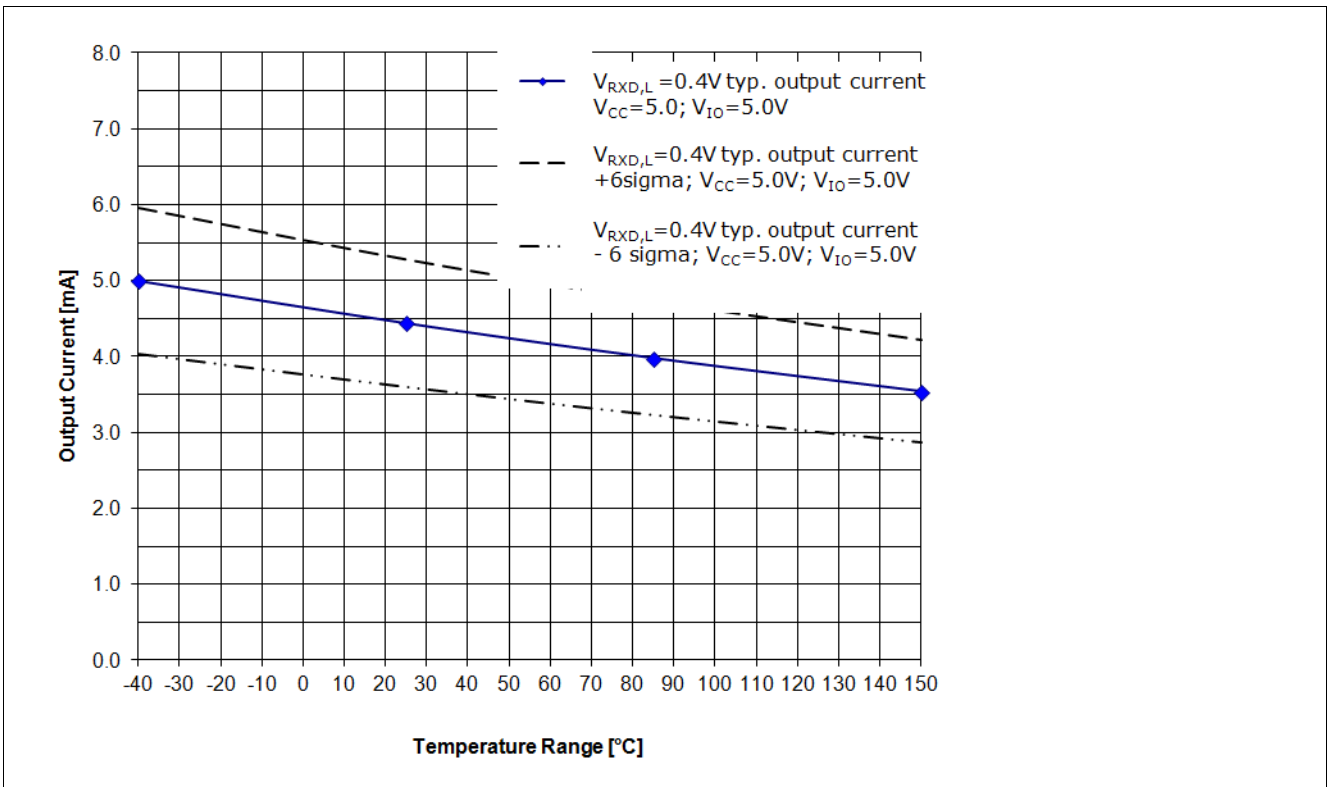
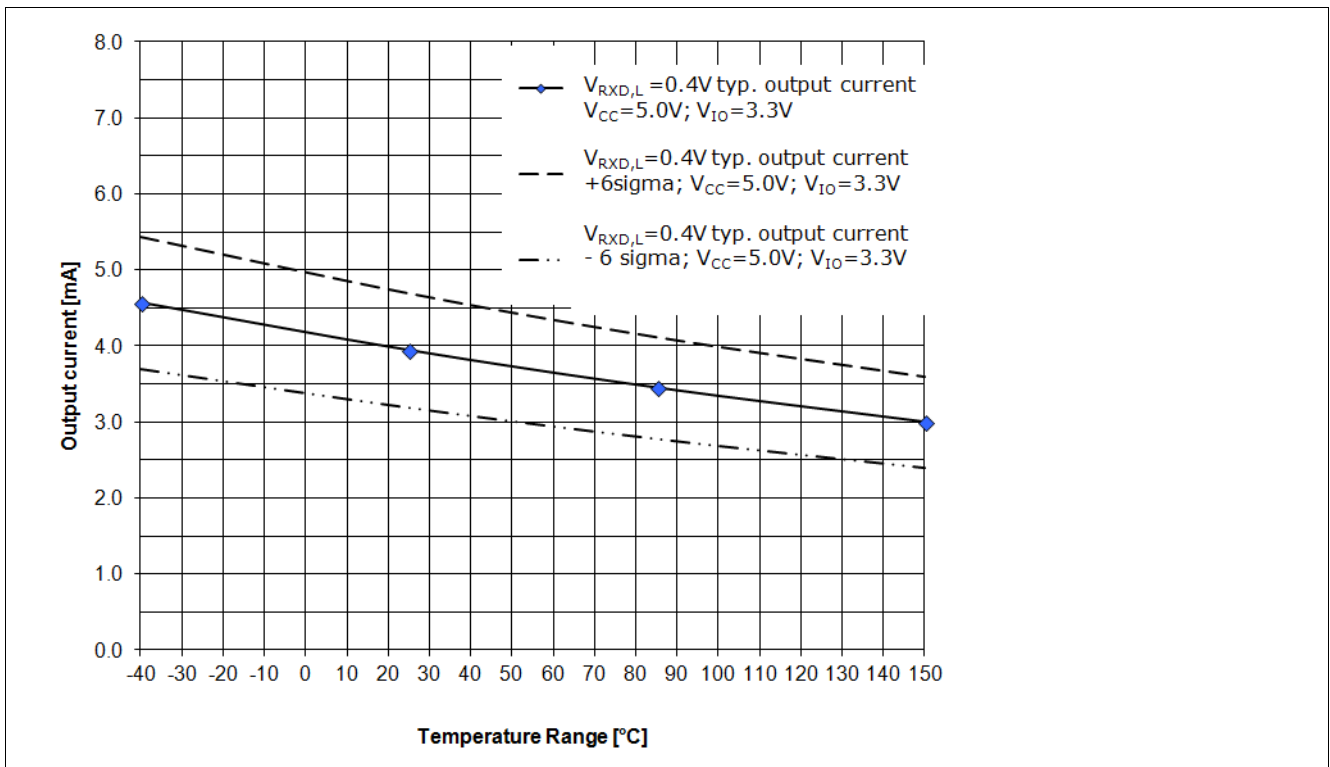

Figure 13 RxD Output driver capability for a logical “Low” signal $V_{\text{RxD,H}}=0.4\text{ V}$, $V_{\text{CC}}=5.0\text{ V}$, $V_{\text{IO}}=5.0\text{ V}^1$
Figure 14 RxD Output driver capability for a logical “Low” signal $V_{RxD,H}=0.4\text{ V}$, $V_{CC}=5.0\text{ V}$, $V_{IO}=3.3\text{ V}^1)$
The diagram in Figure 13 and the diagram in Figure 14 show the current capability of the RxD output pin depended on the chip temperature T_J . Figure 13 shows the current capability of the RxD output pin at a V_{IO} power supply of 5.0 V and Figure 14 shows the current capability of the RxD output pin at a V_{IO} power supply of 3.3 V.
- The curve “VRxD,H = 0.4 V; **typ. output current**; VCC = 5.0 V; VIO =5.0 V;” displays the typical output current at the RxD output pin of the TLE8250GVIO (see Figure 13).
- The curve “VRxD,H = 0.4 V; **typ. output current + 6 sigma**; VCC = 5.0 V; VIO =5.0 V;” displays the expected maximum value of the output current at the RxD output pin (see Figure 13).
- The curve “VRxD,H = 0.4 V; **typ. output current - 6 sigma**; VCC = 5.0 V; VIO =5.0 V;” displays the expected minimum value of the output current at the RxD output pin (see Figure 13).
- The curve “VRxD,H = 0.4 V; **typ. output current**; VCC = 5.0 V; VIO =3.3 V;” displays the typical output current at the RxD output pin of the TLE8250GVIO (see Figure 14).
- The curve “VRxD,H = 0.4 V; **typ. output current + 6 sigma**; VCC = 5.0 V; VIO =3.3 V;” displays the expected maximum value of the output current at the RxD output pin (see Figure 14).
- The curve “VRxD,H = 0.4 V; **typ. output current - 6 sigma**; VCC = 5.0 V; VIO =3.3 V;” displays the expected minimum value of the output current at the RxD output pin (see Figure 14).